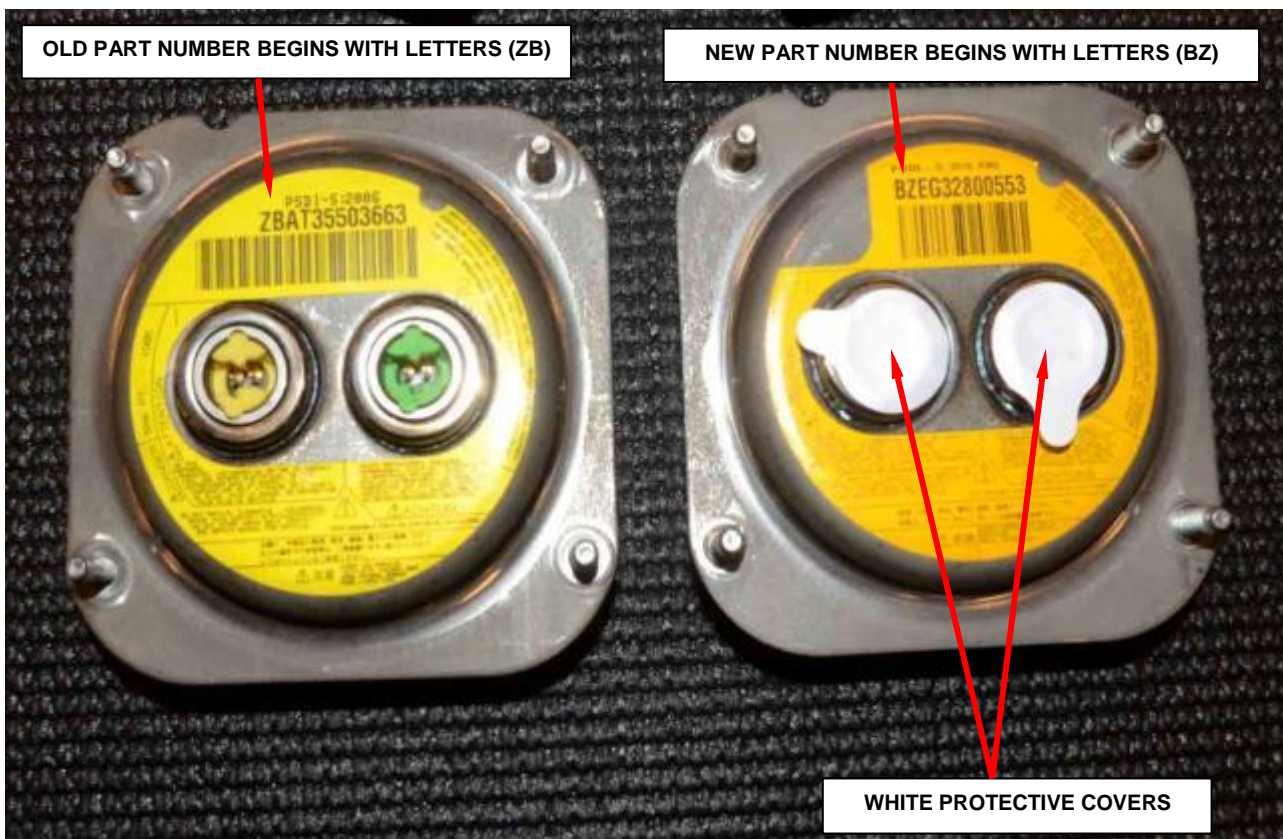

Figure 11 – Driver Airbag Inflator
CAUTION: DO NOT remove the white protective covers from the airbag electrical receptacles on the NEW inflator at this time (Figure 11).
NOTE: The difference between the OLD and the NEW inflators are the first two letters in the serial number on the caution label (Figure 11).
20. Remove the white protective covers from the airbag electrical receptacles on the **NEW** inflator at this time (Figure 11).